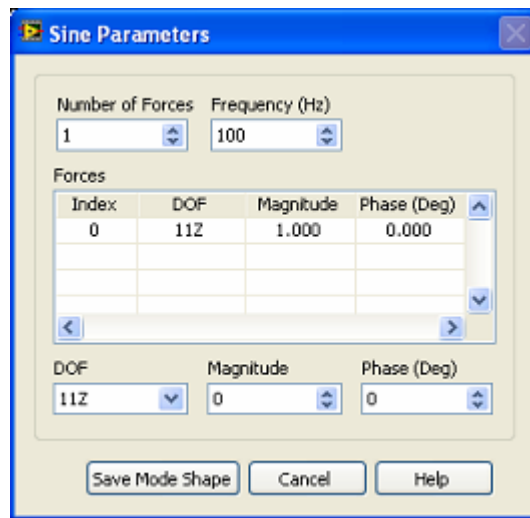

Figure 4-16 Sine parameters window
- Specify sine excitation parameters as Figure 4-16 shows.